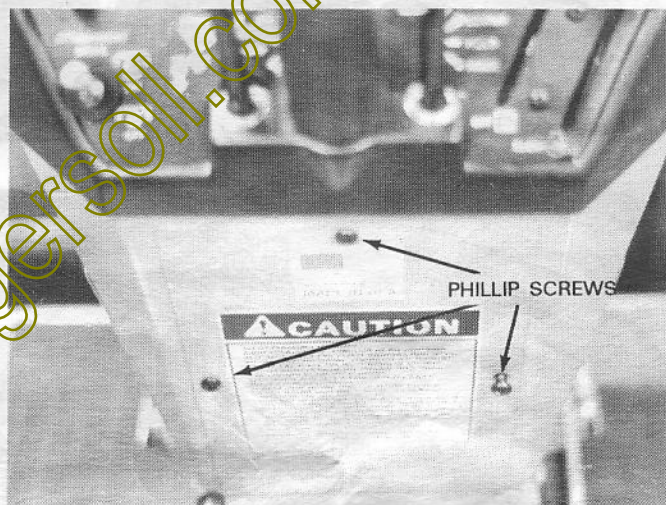

FIG. 3
4. Remove the center access cover shown in FIG. 3 by removing the 3 each phillip head screws.